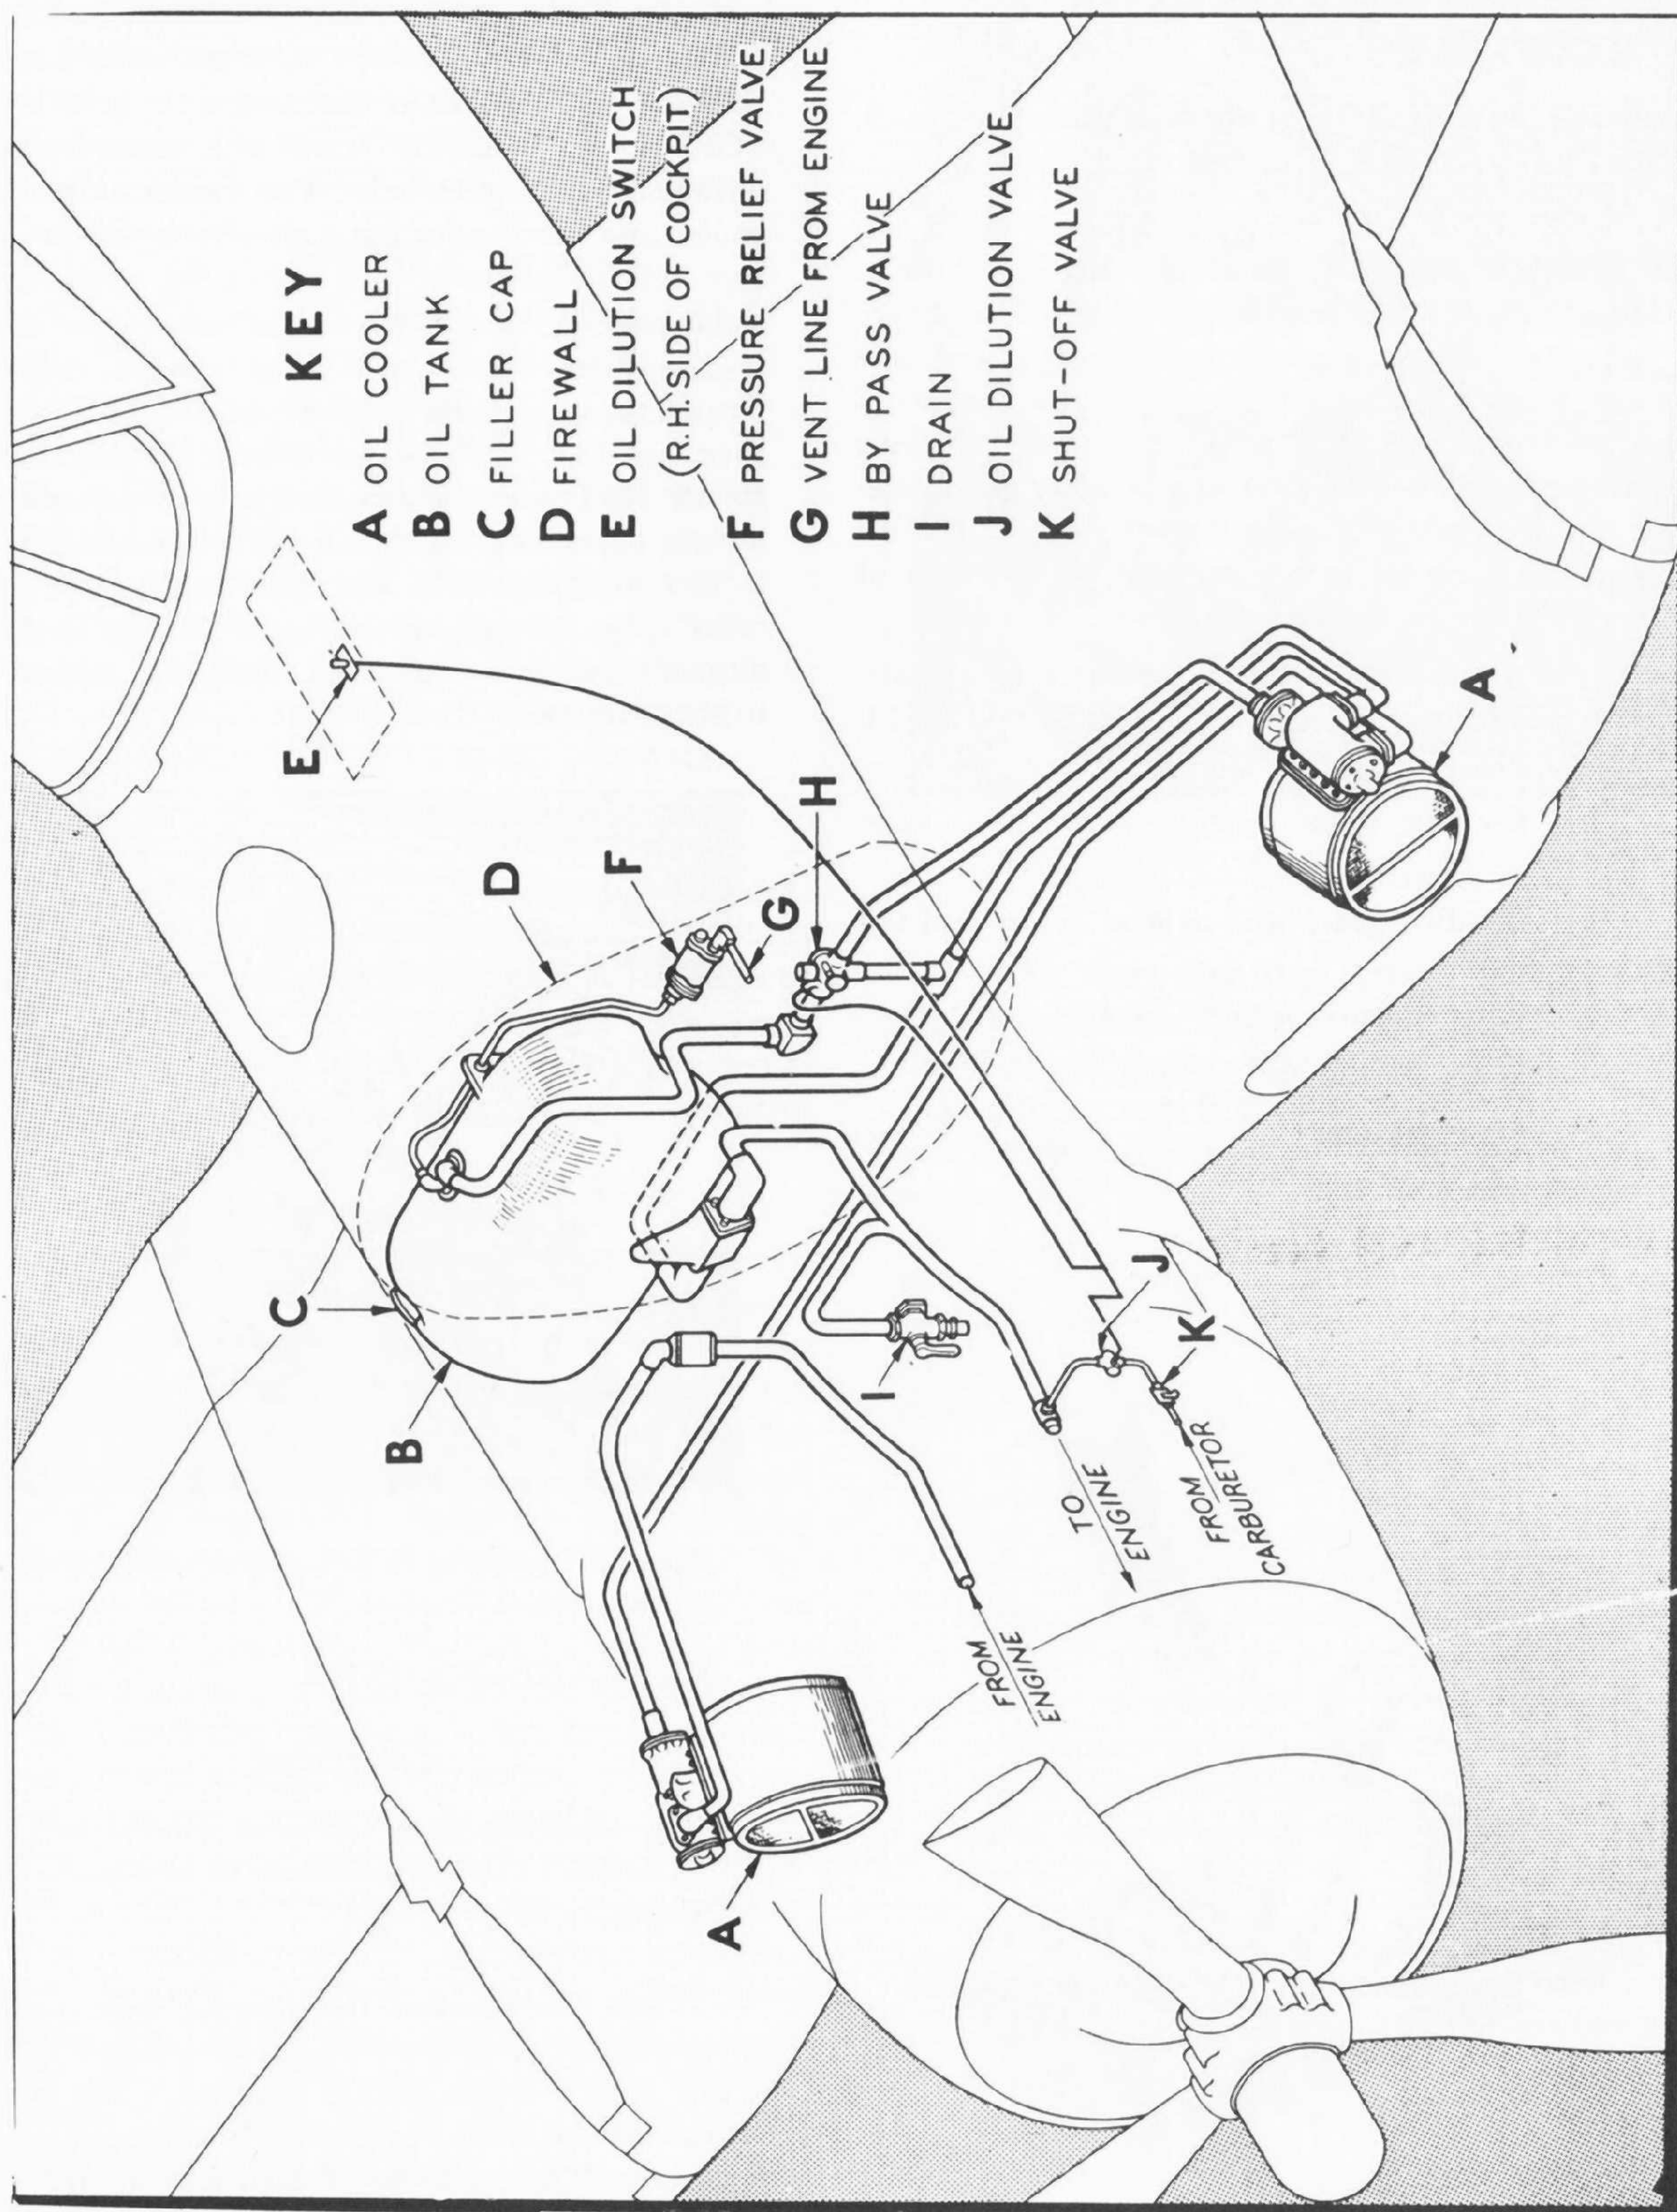

Fig. 12 — Oil System
a. GENERAL. — The oil system is shown on figure 12.
(1) OIL. — Grade: 1100.